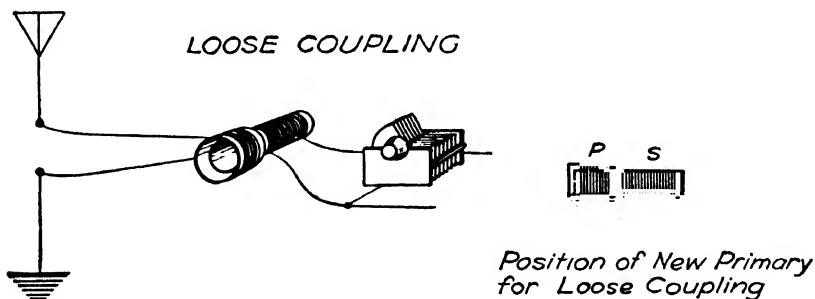

FIG. 170. When the sliding primary is set as shown here the coupling is loose. Signals are now weaker but unwanted stations can be tuned out.
Step 4. Move the new primary toward the end of the secondary (see Fig. 170). Again tune and note both loudness and sharpness of tuning.